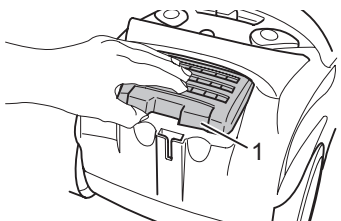

Fig.26
2. Open the blow-out filter cover. To do this, press the release (Fig. 26/1) and lift up the blow-out filter cover.